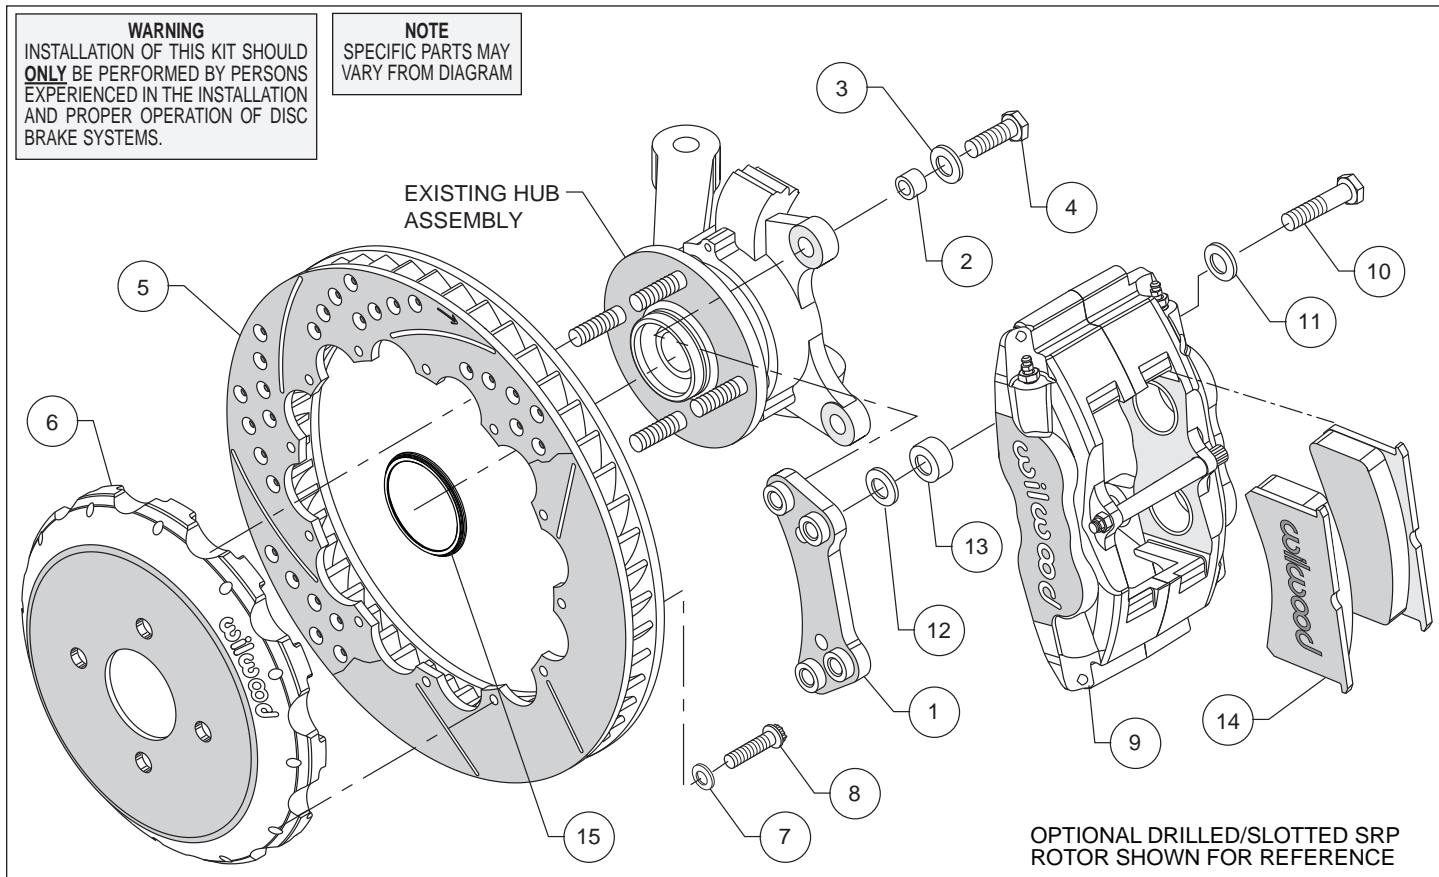

Figure 1. Typical Installation Configuration
- Insert one sleeve (2) each into the holes on the top and bottom of the spindle “ears” where the OEM caliper bracket was removed. Apply red *Loctite*® 271 to the caliper mounting bracket bolt threads (4) before installation of the caliper mounting bracket (1). Install the bracket with the flanged heads of the clinch nuts facing outboard, as shown in Figure 1. Slide bolt (4) through washer (3) and into the previously installed sleeve (2), from the backside of the hub. Finger tighten. Repeat for the lower mounting holes. Torque bolts to 60 ft-lb.
- Slide the rotor registration adapter (15) onto the axle hub with the smaller O.D. facing toward the rotor/hat, Figure 1 and Photo 1.
- NOTE:** *Please reference the caution statement at the beginning of the assembly instructions.* Mount the caliper (9) onto the caliper mounting bracket (1) using bolts (10) and washers (11). Insert spacer between the caliper ears and the bracket before tightening the bolts. View the rotor (5) through the top of the caliper. The rotor should be aligned in the center of the caliper. If not, loosen the two bolts and adjust the caliper by using 0.016 inch thick shims (12), placed between the spacer (13) and the bracket, Figure 1. Finger tighten and recheck alignment. Always use the same amount of shims on both the top and bottom caliper mounting bolts. Loosen the two bolts and apply red *Loctite*® 271 to bolt threads and torque to 60 ft-lb.
- Remove the caliper bridge bolt and install the disc brake pads (14) then reinstall the caliper bridge bolt. Repeat this procedure for the other wheel.